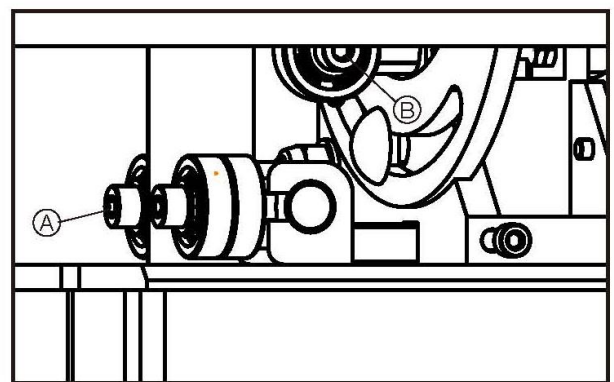

Fig.4.6.2
- To roller bearing should lightly touch the blade, to prevent vibration during operation and ensure correct direction of cutting. The positioning of these rollers is controlled by screw "A"(Fig.4.6.2), once they have been adjusted, tighten the screw "B"(Fig.4.6.2); they should be 2 mm behind the teeth of the blade. The thrust shaft prevents excessive backward movement of the blade whilst in operation , and should be 1-2 mm from the back of the blade: this can be adjusted by screw "B"(Fig.4.6.2).